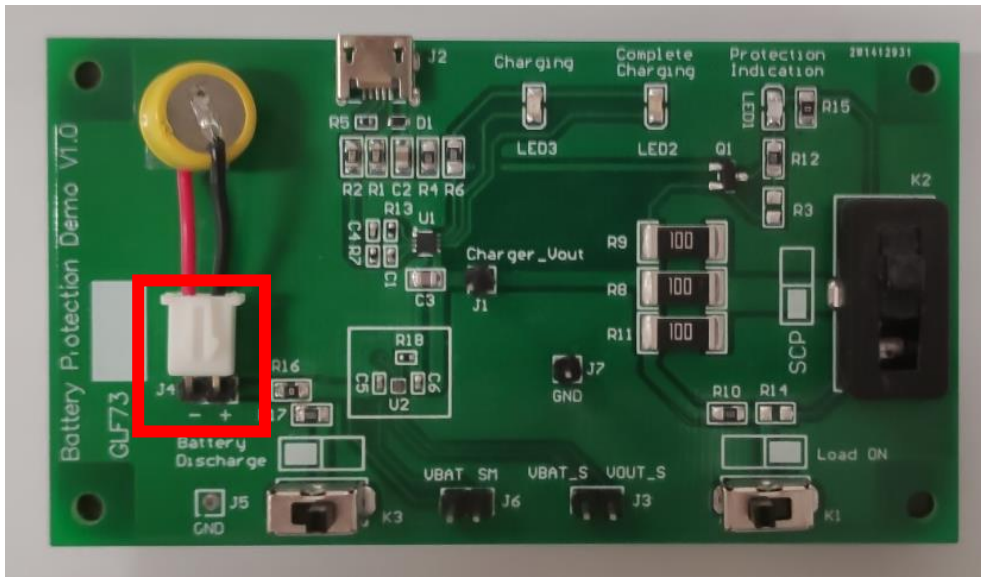

Fig 11. Reverse Polarity Connection Protection
2. As shown in *Figure 11*, unplug the battery and then intentionally reverse the polarity of the battery, we will find that all LEDs are off.